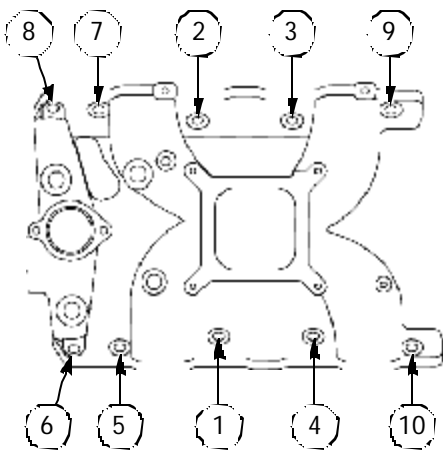

Figure 1 - 326-455 c.i.d. Pontiac Torque Sequence
- 5) Torque all of the manifold bolts in two steps by the sequence shown in Figure 1 to 25 ft/lbs.